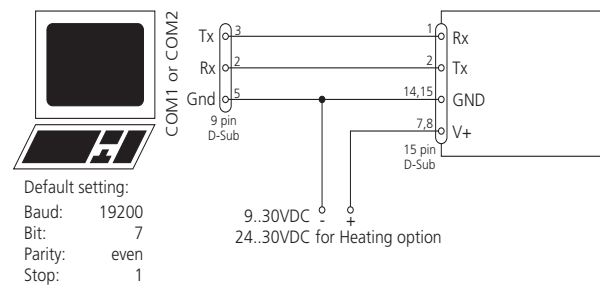

Fig. 2: Configuration connection
3. Connect the FLS-C sensor to the PC and to the 24V DC Power supply as shown in Fig 2.